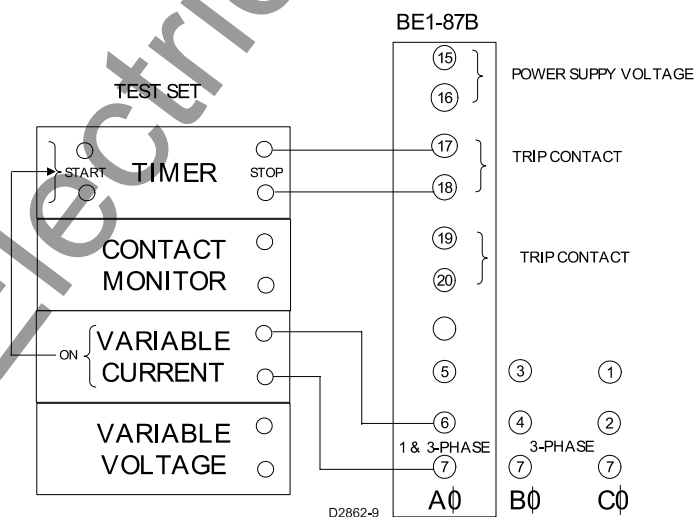

Figure 5-6. Trip Time Test Setup
| Figure 5-6. Trip Time Test Setup | 5-6 |
1. Connect the test circuit as shown in Figure 5-6. The test set timer should be set to start on the application of current and stop on trip contact (17 – 18) closure.
1. Change the jumper on the Control Board from position 1-2 to 2-3 (see Figure 3-3). Connect the test circuit as shown in Figure 5-6. The test set timer should be set to start on the application of current and stop on trip contact closure.